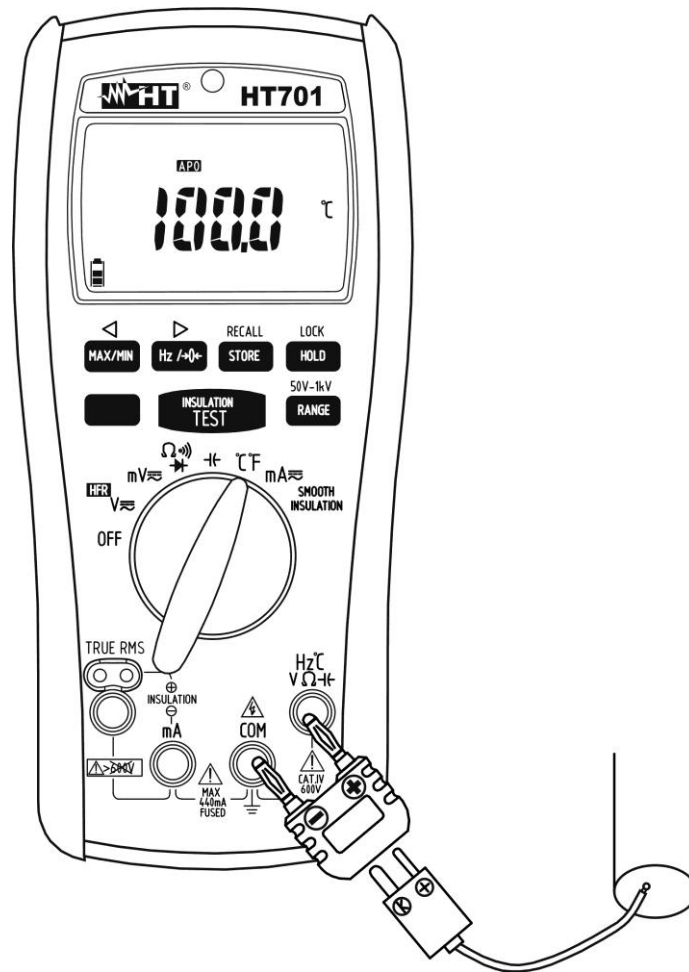

Fig. 9: Use of the instrument for Temperature measurement
3. Insert the provided adapter into the input terminals **Hz°C V Ω Hz** and **COM**, respecting the red and black colours found on it (see Fig. 9)